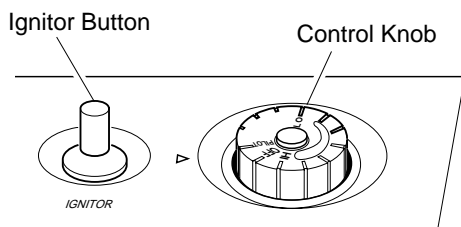

Figure 24 - Control Knob In The OFF Position
4. Wait five (5) minutes to clear out any gas. Then smell for gas, including near the floor. If you smell gas, STOP! Follow "B" in the safety information at the top of page 23. If you don't smell gas, go to the next step.
5. Turn control knob counterclockwise to the PILOT position. Press in control knob for five (5) seconds (see Figure 24).